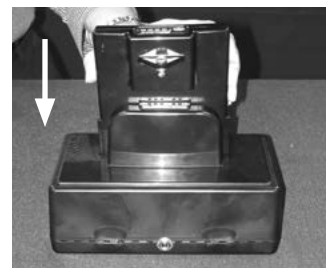

Figure 2
- Place battery into the charging port of the battery charger. (See Figure 2.)